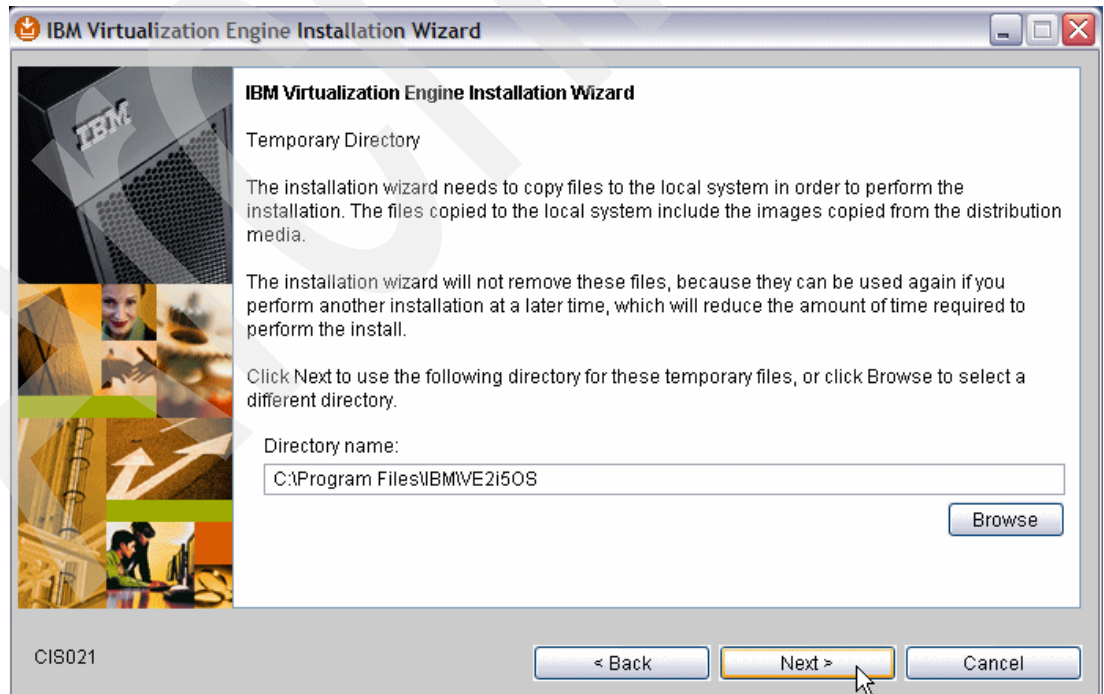

Figure 5-9 Temporary Directory window
5. On the Temporary Directory window (Figure 5-9), the default directory is displayed to indicate where the installation files are copied. The default directory is C:\ProgramFiles\IBM\VE2i5OS. To select a different location for storing installation files, click **Browse**. Or just click **Next**.